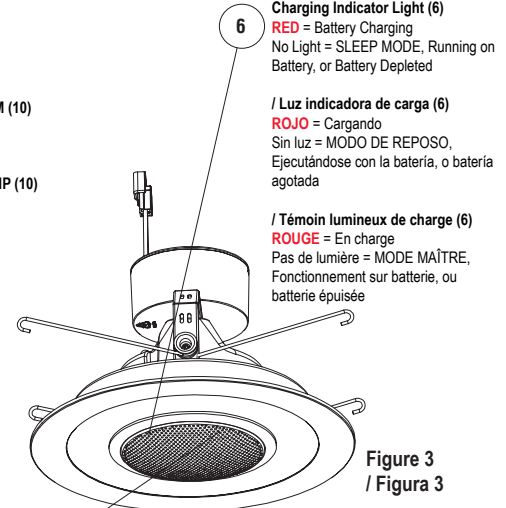
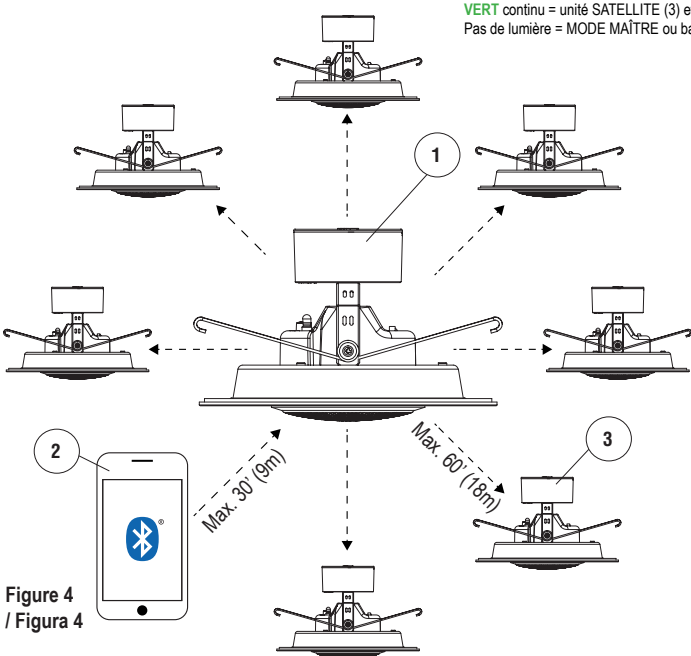

Figure 3 / Figura 3
Figure 4 / Figura 4
7. Wake the Speaker (4) from SLEEP MODE by pressing the ON / OFF Button (11) for 2 seconds until you hear an audible tri-tone, low-to-high chime. The PAIR Button (12) will start blinking **GREEN**, and the S-M Indicator Light (5) will blink **BLUE** on the front of the module under the speaker grill. This indicates the speaker is in MASTER MODE and is ready to pair (Figure 3).
8. Place your Bluetooth® Enabled Device (2) (phone, laptop, music player, etc.) in SEARCH MODE, then select the device called **Down Light Speaker** to pair to the Speaker (4).
9. Pairing complete with an audible BEEP sound. Play music from your Device (2) to check operation of the MASTER Unit (1).
10. If the pair does not complete within 20 seconds, press and hold the ON / OFF Button (11) until you hear an audible 4-tone, high-to-low chime indicating that the Speaker (4) is in SLEEP MODE. After the **BLUE** S-M Indicator Light (5) turns off completely under the speaker grill, re-start process from Step I.7.
11. To stop playing music, pause or turn music off on your Device (2). You do not need to turn the unit OFF.
3. Turn ON the SATELLITE Unit (3) by pressing the ON / OFF Button (11) for 2 seconds. The PAIR Button (12) will illuminate **GREEN**, with an audible BEEP sound. The S-M Indicator Light (5) under the speaker grill will also illuminate **GREEN** indicating SATELLITE MODE (Figure 3).
4. While the MASTER Unit (1) is still playing music, press the PAIR Button (12) on the SATELLITE Unit (3) until it makes an audible BEEP sound and starts quickly flashing **GREEN**. Then separately press and hold the PAIR Button on the MASTER Unit.
5. Once speakers pair, the SATELLITE Unit (3) will make an audible BEEP sound and should sync up with the MASTER Unit (1) within 20 seconds, resulting in music coming from both units simultaneously. The PAIR Button (12) on both units will illuminate to a solid **GREEN** light and will remain solid **GREEN** as long as the units are paired.
6. If the pairing does not complete within 20 seconds, turn OFF the SATELLITE Unit (3) by pressing the ON/OFF Button (11) for 3 seconds. After the Speaker (4) makes two BEEP BEEP sounds, re-start process from Step II.3.
7. Repeat Steps II.1 - II.5 for up to seven SATELLITE Units (3) (Figure 4).